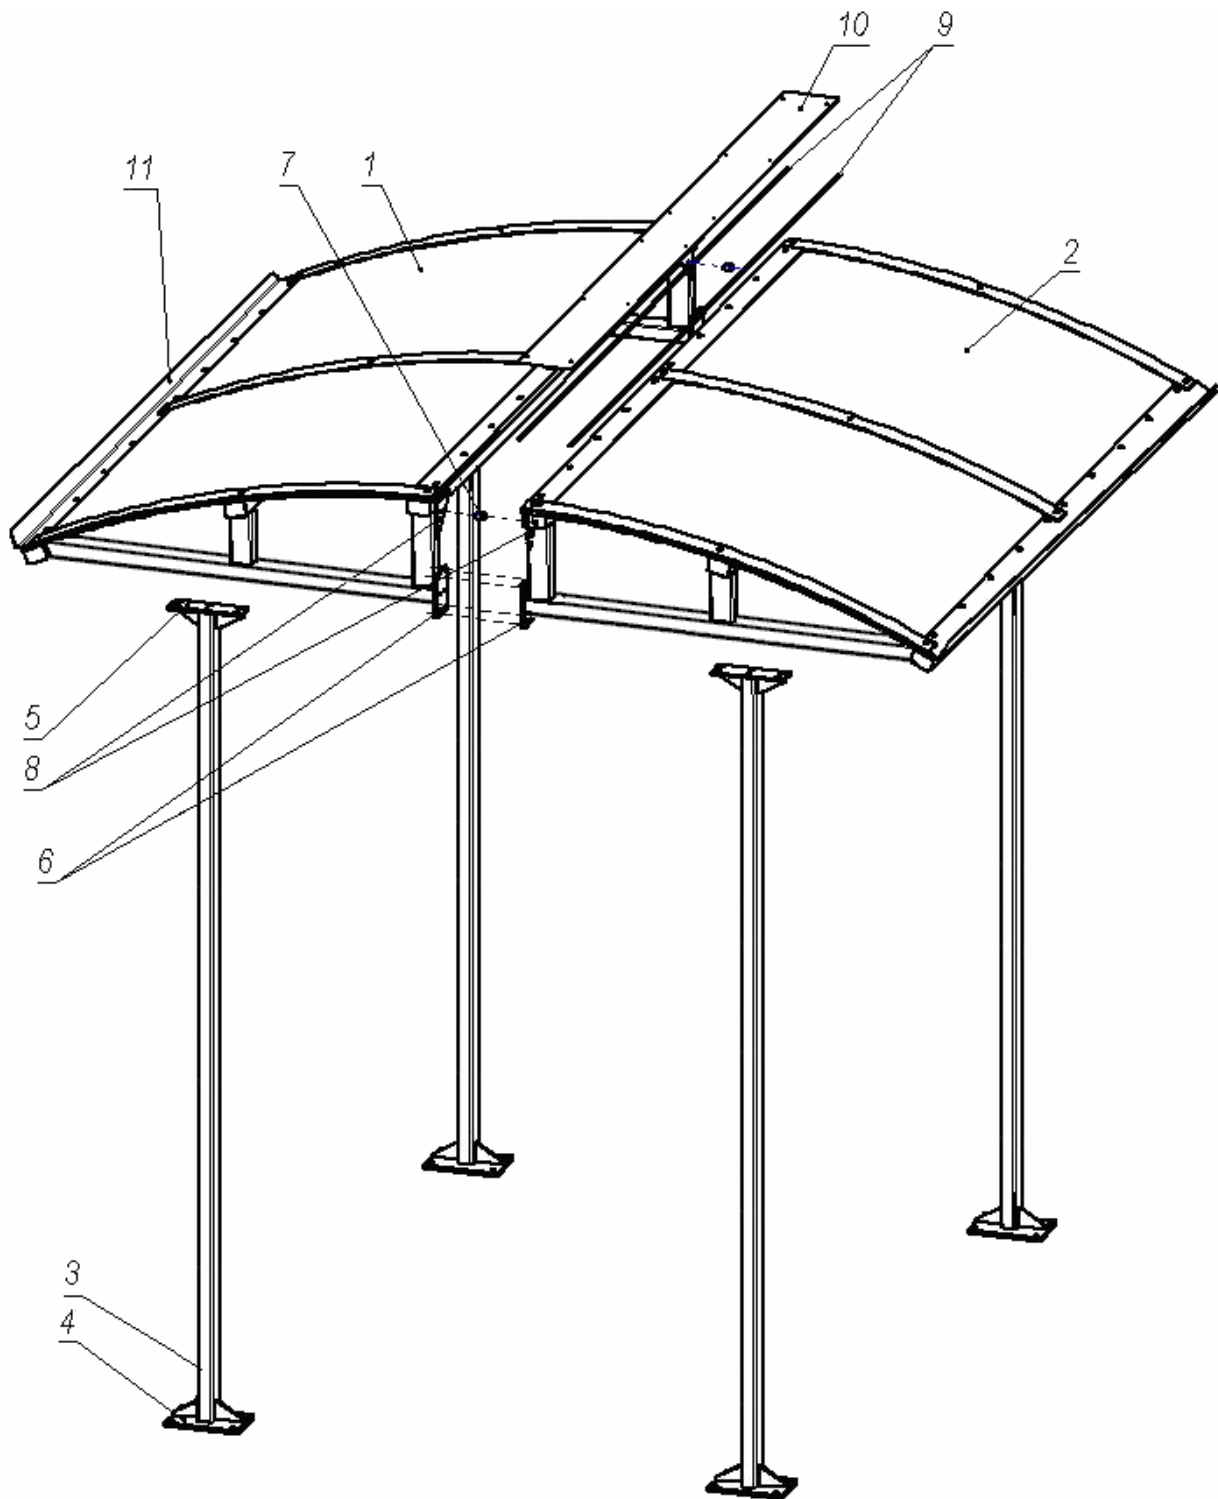

Figure 3. The canopy design:
5.2.1 The design is shown in Fig. 3. Numbers of the position correspond to Fig.3.